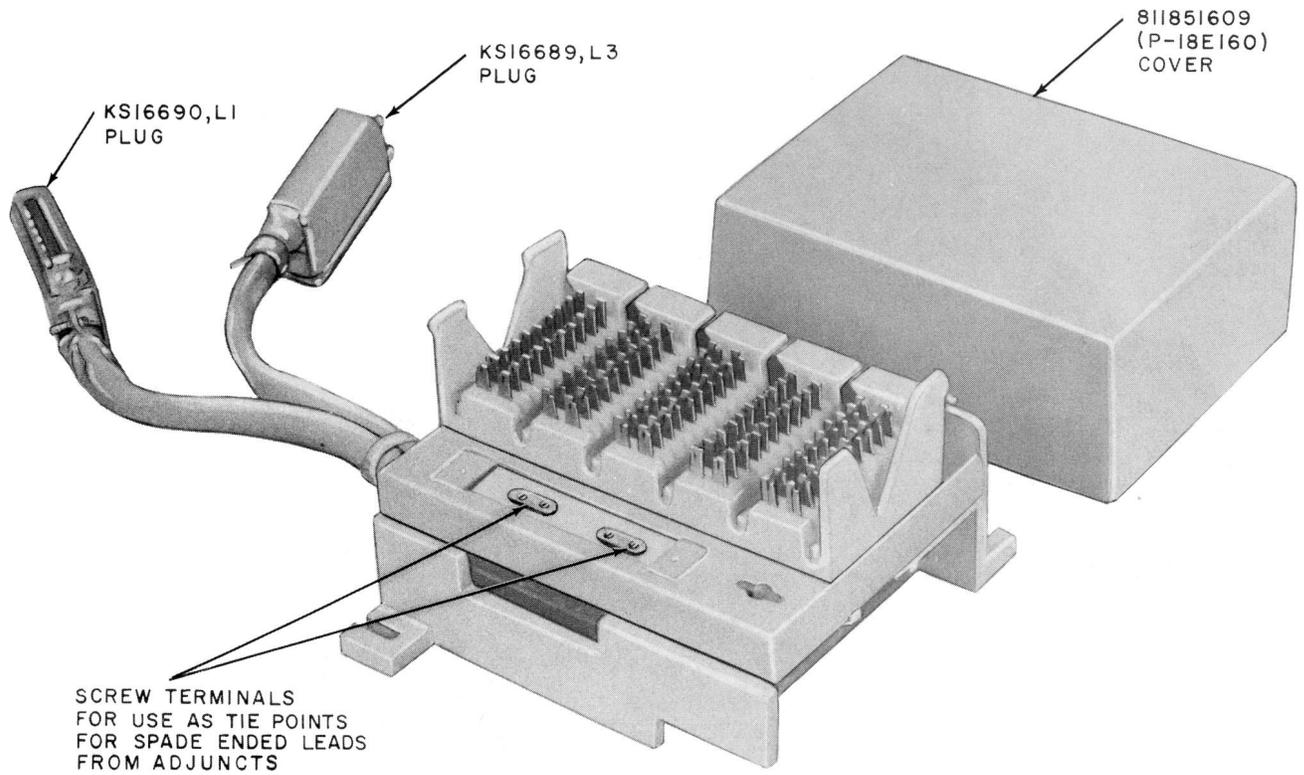

Fig. 3—66E8-25 Connecting Block
**2.06** The 66E8-25 connecting block (Fig. 3) is equipped with a molded plastic base and provides full access to the 50 conductors of the connector cable and mounting cord supplying a